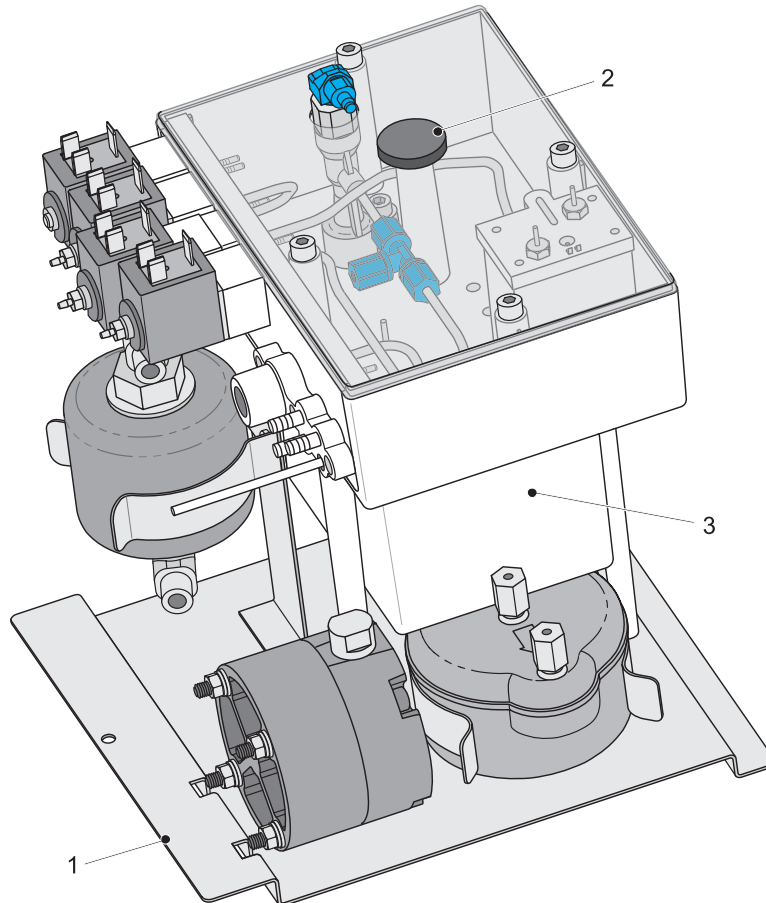

Figure 5-4. Ink Mixer Tank and Filler Plug Location
- 1 Remove the filler plug (Item 2 in Figure 5-4) from the top of the FMS.
- 2 Prime the mixer bowl (3) with approximately 250 ml of the correct ink using a syringe and a length of 40 mm x 6 mm tube. The *Ink Out* icon will cease to be displayed when approximately 250 ml is added to the mixer bowl.
- 4 Refit the filler plug (2) to the top of the FMS.